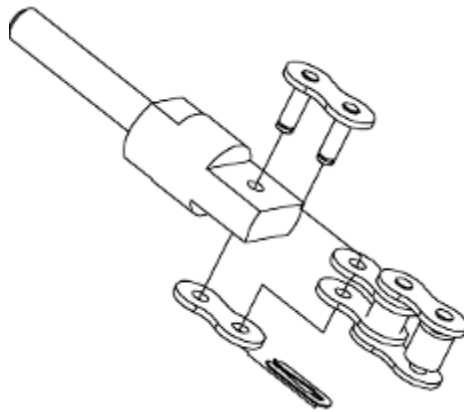

Figure 17 Connecting Chain to Tensioning Block
E. INSTALLING CHAIN EQUALIZATION SYSTEM (Reference Figures 17 - 24)
2. Find the eight (8) equal half-lengths of chain, lay out on a clean surface.
3. Using the hardware provided, attach a chain tensioning block to one end of each half-chain as shown in **Figure 17**.